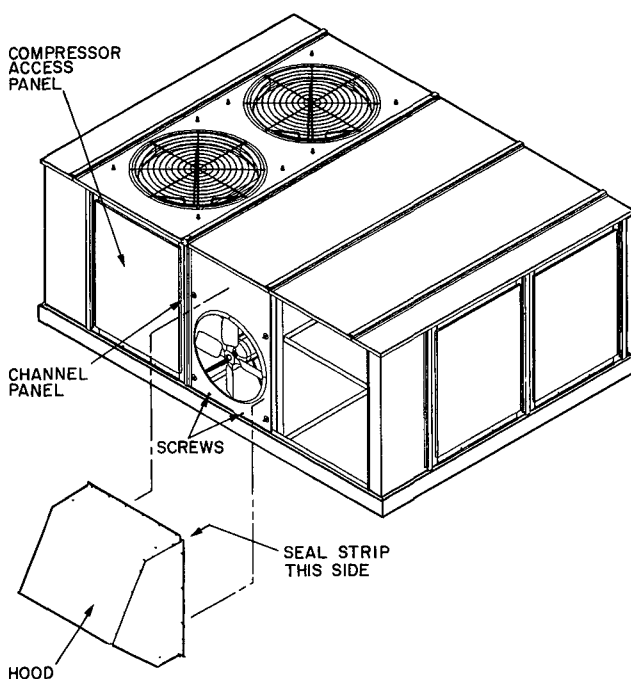

**Fig. 12 — Power Exhaust/Barometric Relief Hood (50LJ Unit Shown)**
1. Remove the lag screws holding hood assembly to shipping skid. See Fig. 12.